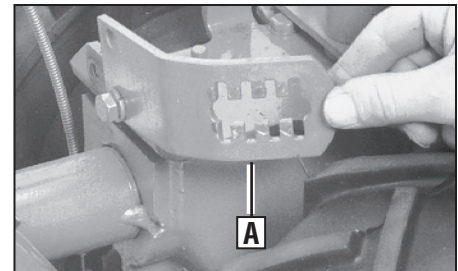
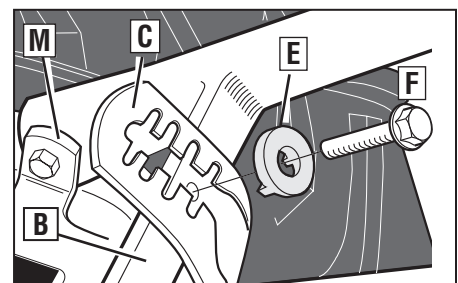
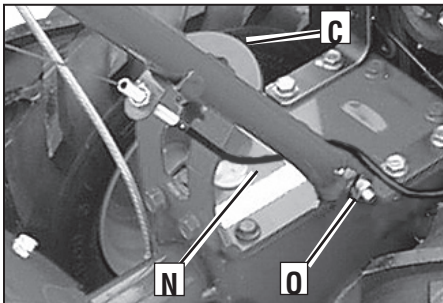

Figure 2-2: On electric start units, move height adjustment bracket aside.
Figure 2-3: Forward clutch control cable not shown for clarity.
Figure 2-4: Attach handlebars.
height adjustment bracket (A, Figure 2-2), loosen the second screw, and swing the bracket to one side.
3. Gently lift handlebar (do not overstretch attached cable) and place handlebar cross-brace (B, Figure 2-3) in front of curved height adjustment bracket (C).
4. With the forward clutch cable (N, Figure 2-4) on the inside of handlebar, position the handlebar ends on the outside of the two mounting tabs (M, Figure 2-3) on the transmission top cover.
NOTE: The curved handlebar height adjustment bracket appears as shown in C, Figure 2-3 for non-electric start units. For electric start units, the bracket is loosened and moved to one side.
5. Loosely attach the handlebars to the mounting tabs with two 3/8-16 x 1" screws (heads of screws go to inside of tabs), 3/8" flat washers and 3/8"-16 lock nuts (O, Figure 2-4).
height adjustment bracket (A, Figure 2-2). Tighten both screws securely. Make sure the handlebar cross-brace (B, Figure 2-3) is under the bracket.
7. Move the handlebars up or down to align the threaded hole in the cross-brace with one of the four slots in the curved height adjustment bracket. Place the keyed washer (E, Figure 2-3) on the flange head height adjustment screw (F) with the raised keys (edges) of the washer facing down.
8. Thread the height adjustment screw (F, Figure 2-3) into the hole in the handlebar cross-brace, making sure that the raised keys on the washer fit into the slot on the height adjustment bracket. Tighten the height adjustment screw securely. Next, securely tighten the two screws and nuts in the ends of the handlebar (M, Figure 2-3).